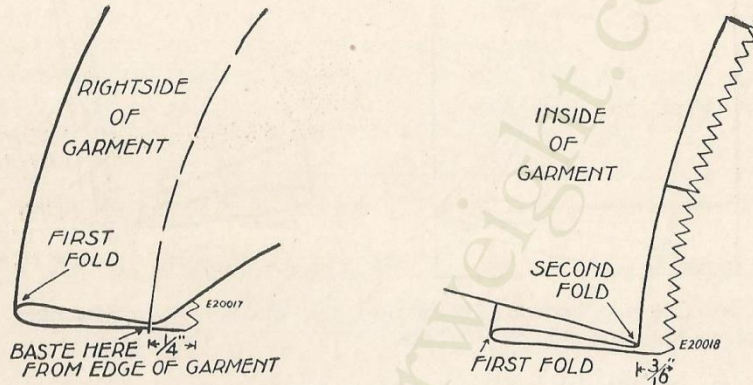

FIG. 257. FOLDING OF MATERIAL FOR MAKING BLENDED CIRCULAR INVISIBLE HEM ON NON-FRAYING FABRICS
(SEE FIG. 257)
- f—Now turn hem toward right side of garment, exposing about $\frac{3}{16}$ " of the edge, as shown in Fig. 257.